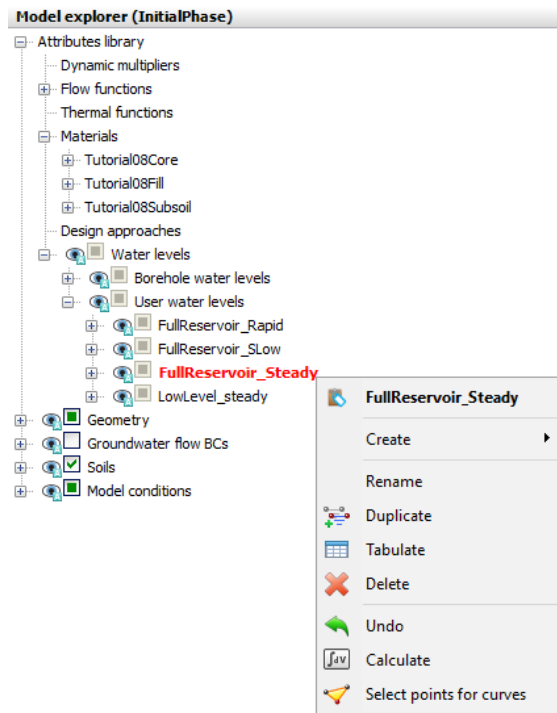

Figure 178: Duplication of water level
8. Due to the global nature of the water levels, if an attribute is assigned to a water level in the model it will affect it in all phases. The water level in this phase has the same geometry with the one previously defined, however it is time dependent and a function needs to be assigned to it. As a result, it is required to create a new water level with the same geometry and different attributes. In **Model explorer** right-click on FullReservoir_Steady and select the **Duplicate** option in the appearing menu as shown in Figure 178 (on page 203).